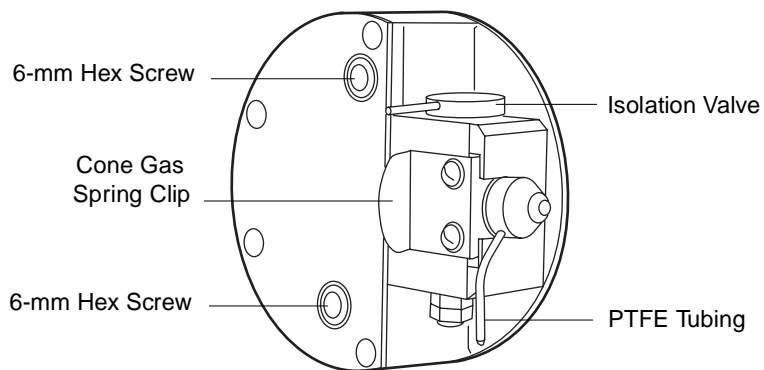

Figure 5-10 Ion Block
11. Remove the PTFE tubing attached to the cone gas nozzle (Figure 5-10).
12. Remove the two 2.5-mm hex screws securing the cone gas spring clip (Figure 5-10).
6. If you have cleaned only the sample and cone gas nozzles, turn the isolation valve (Figure 5-10) back to **Open**.
2. Open the source enclosure cover, and close the isolation valve (Figure 5-10). Close the source enclosure cover, reattaching its clip fasteners.